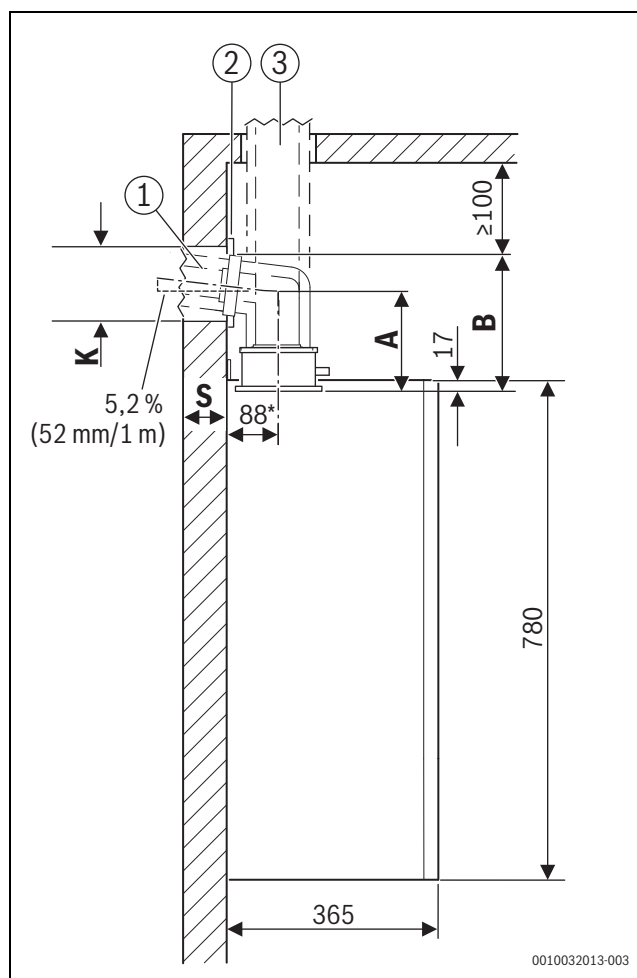

Fig. 2 Side view (mm)
- If necessary, add dimension of the fascia ([2] in Fig. 2).